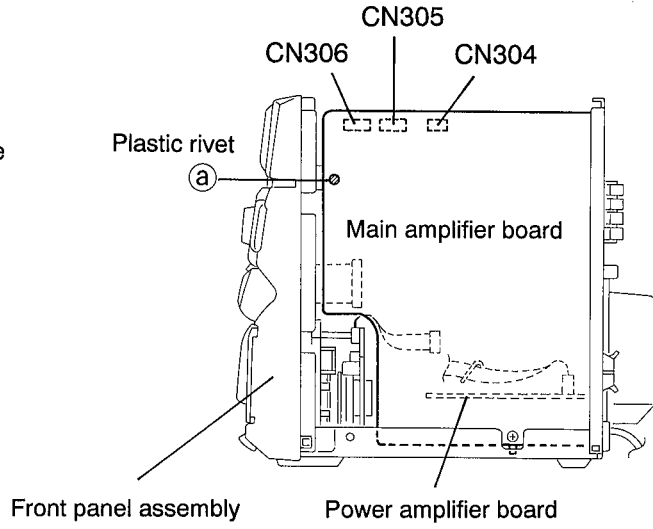

Fig.5-4
5. Remove the plastic rivet ③ fastening the main amplifier board and front panel assembly to the left side panel of the main unit. (See Fig. 5-4)